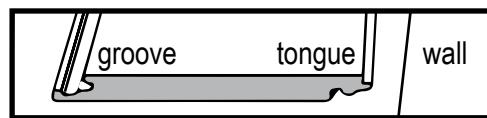

Figure 1
- Start the installation in the left hand corner of the room with the edge of the plank accurately positioned at the chalk line and with the tongue side toward the starting wall. (See figure 1.)